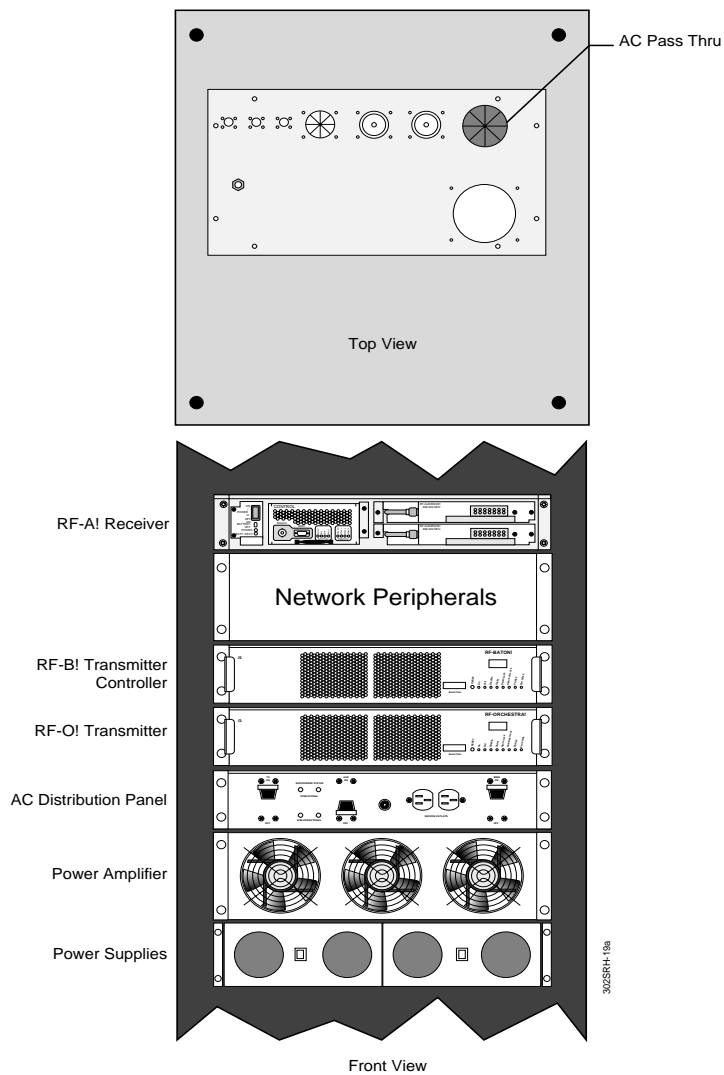

Figure 4-10: Location of Switches for the RF-O! Paging Station
The RF-Orchestra! paging station comes from the factory with the power cord attached to the AC distribution chassis. Before plugging the line cord into the power receptacle, place all equipment power switches in the OFF position. Verify the following switches are in the OFF position (see Figure 4-10).
Note: Numbers in parentheses correspond to the numbers shown in Figure 4-10.
4. Route the power cord out through the top of the cabinet (see Figure 4-10).
Perform the following procedure to verify proper operation of the RF-O! paging station during power up (see Figure 4-10). Refer to the appropriate manuals cited in Chapter 1, Related Publications for the RF-B! transmitter controller, RF-A! receiver, and any network peripherals that are not supported in this manual.